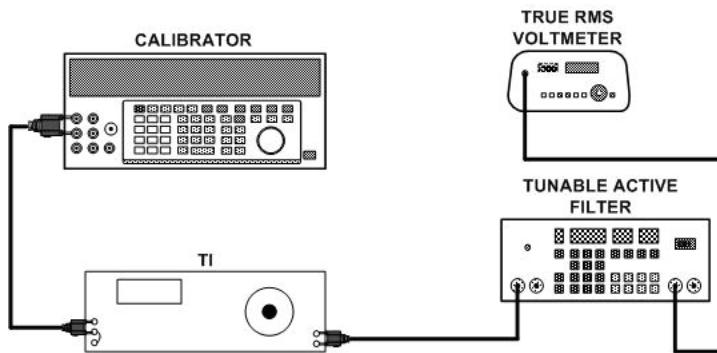

Figure 3. Fundamental frequency rejection - equipment setup.
- (1) Connect equipment as shown in figure 3.